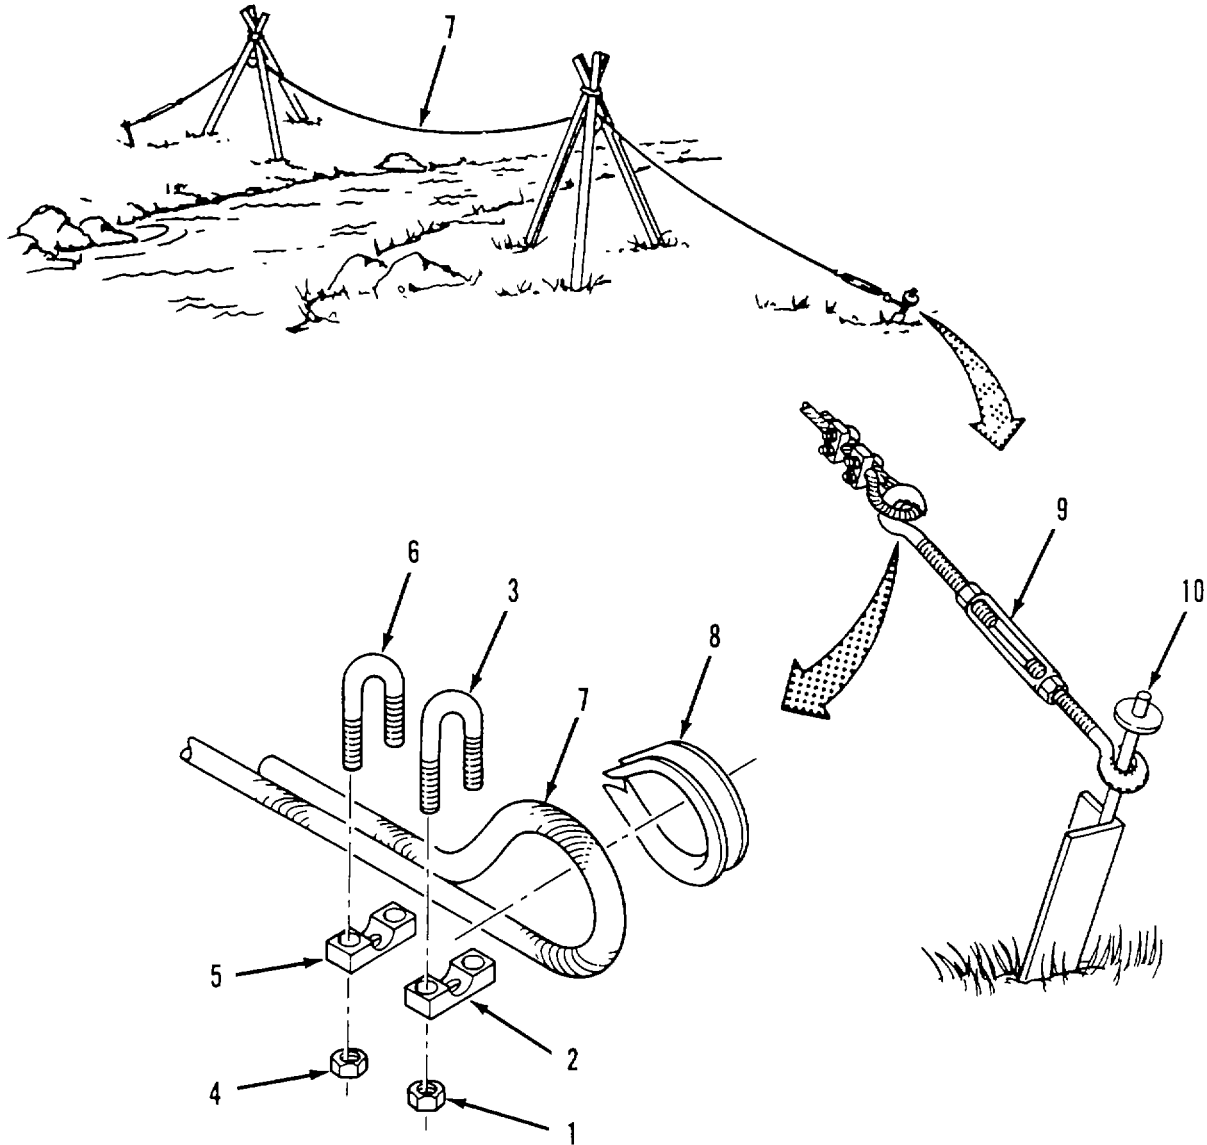

Figure 2-25. Wire Rope and Turnbuckle Assembly
*Assemble Wire Rope and Turnbuckles. Refer to figure 2-25.*
- (6) Using two clamps from suspension kit, make a loop in end of wire rope as follows.
- (b) Bend end of wire rope (7) to form a loop (tag end of rope should be about 9-inches long). Position thimble (8) in loop and hold in place.
- (c) Place U-bolt (3) over doubled end of wire rope (7), about 1/2-inch from thimble (8) Install clamp (2) and two nuts (1) on U-bolt Tighten nuts securely.
- (d) Place second U-bolt (6) over doubled end of wire rope (7), about 4-inches down from first U-bolt (3) Install clamp (5) and two nuts (4) on U-bolt. Tighten nuts securely.